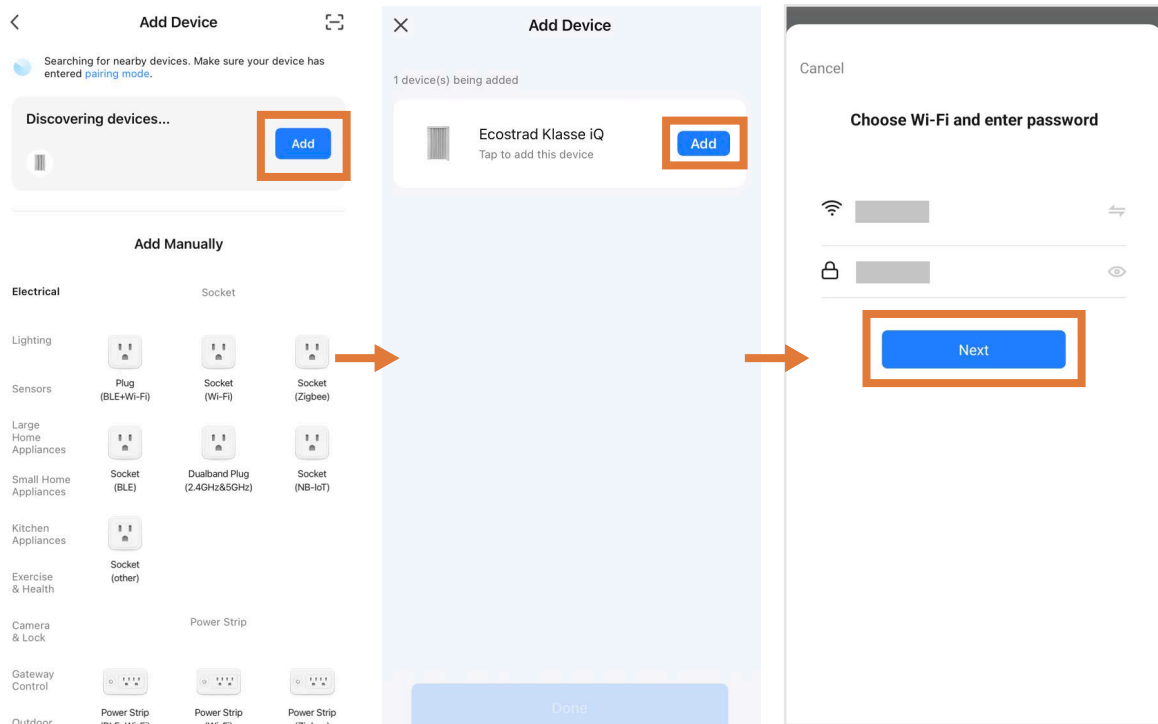

Figure 12 | Finding device on Smart Life app
- The app will demonstrate that it has found the radiator (see **Figure 12**). Press "Add", then tap the **+** icon.